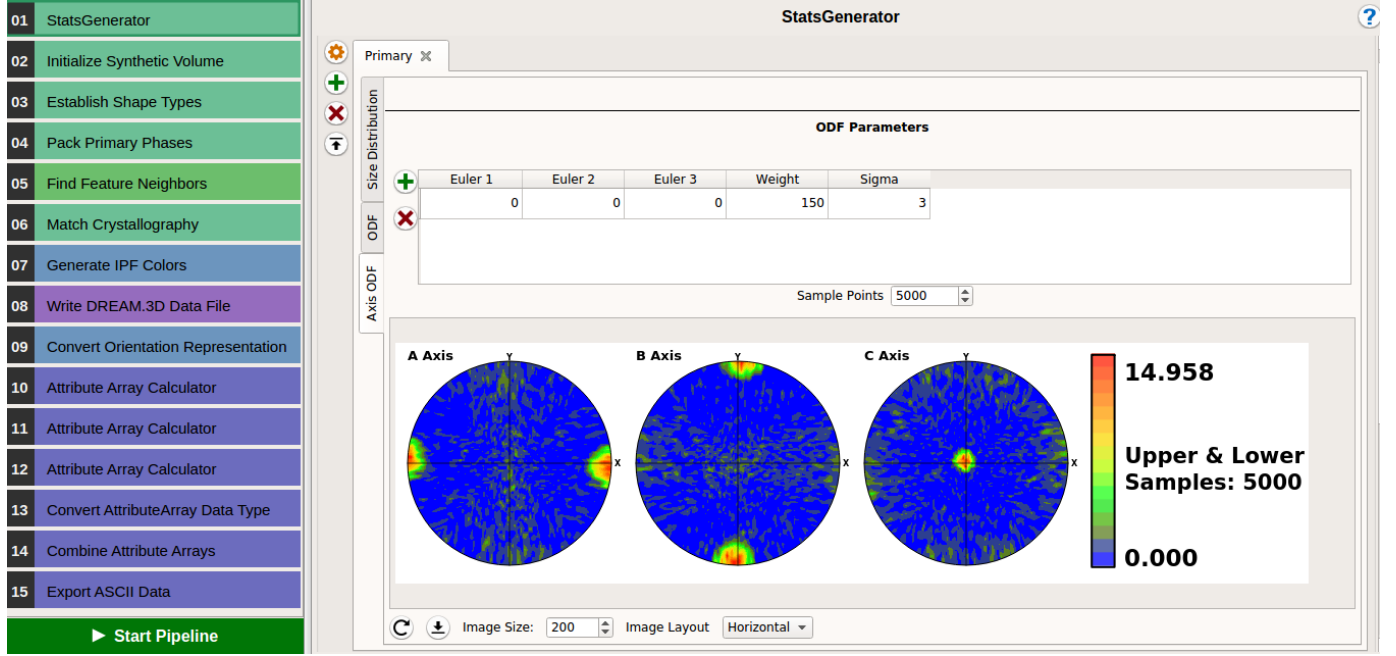

Figure 5: Axis ODF
4. Click on the tab displaying **Axis ODF** and set the parameters as follows - Euler 1 = 0, Euler 2 = 0 , Euler 3 = 0 , Weight = 150 , Sigma = 3 (Fig. 5) - and press the keyboard **Enter** key to update the